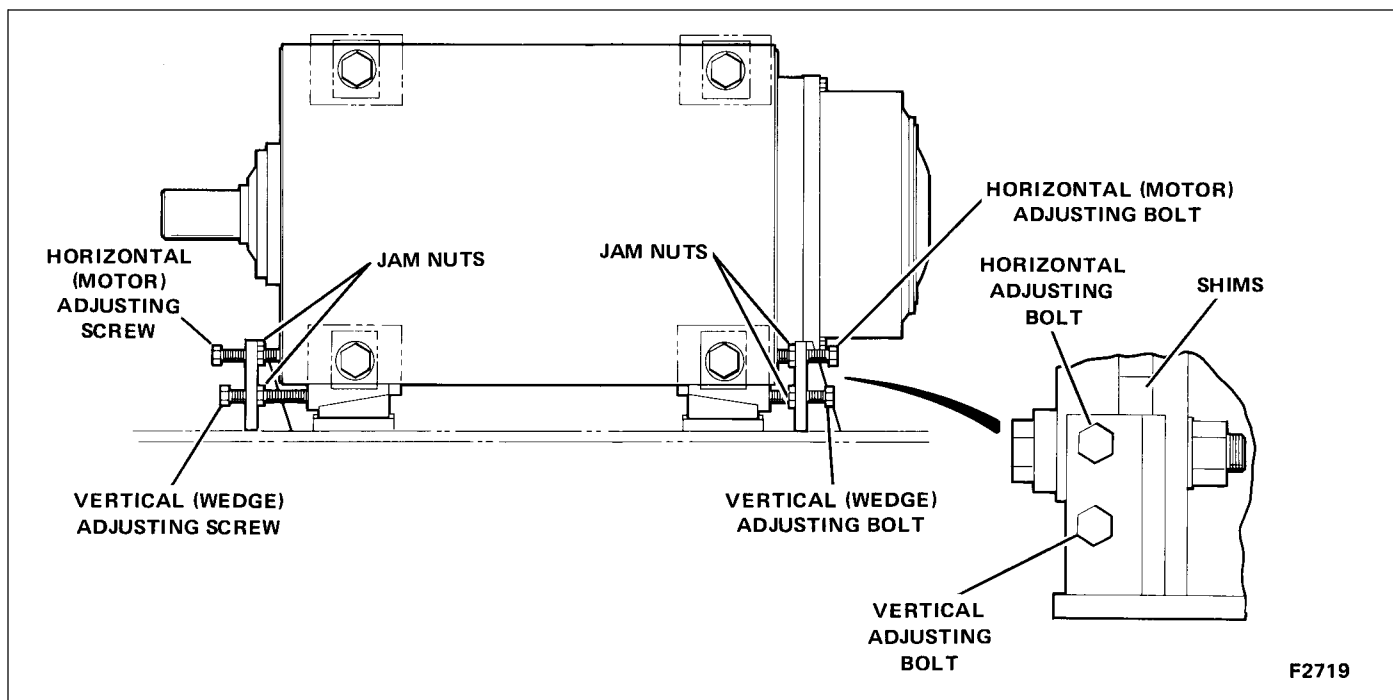
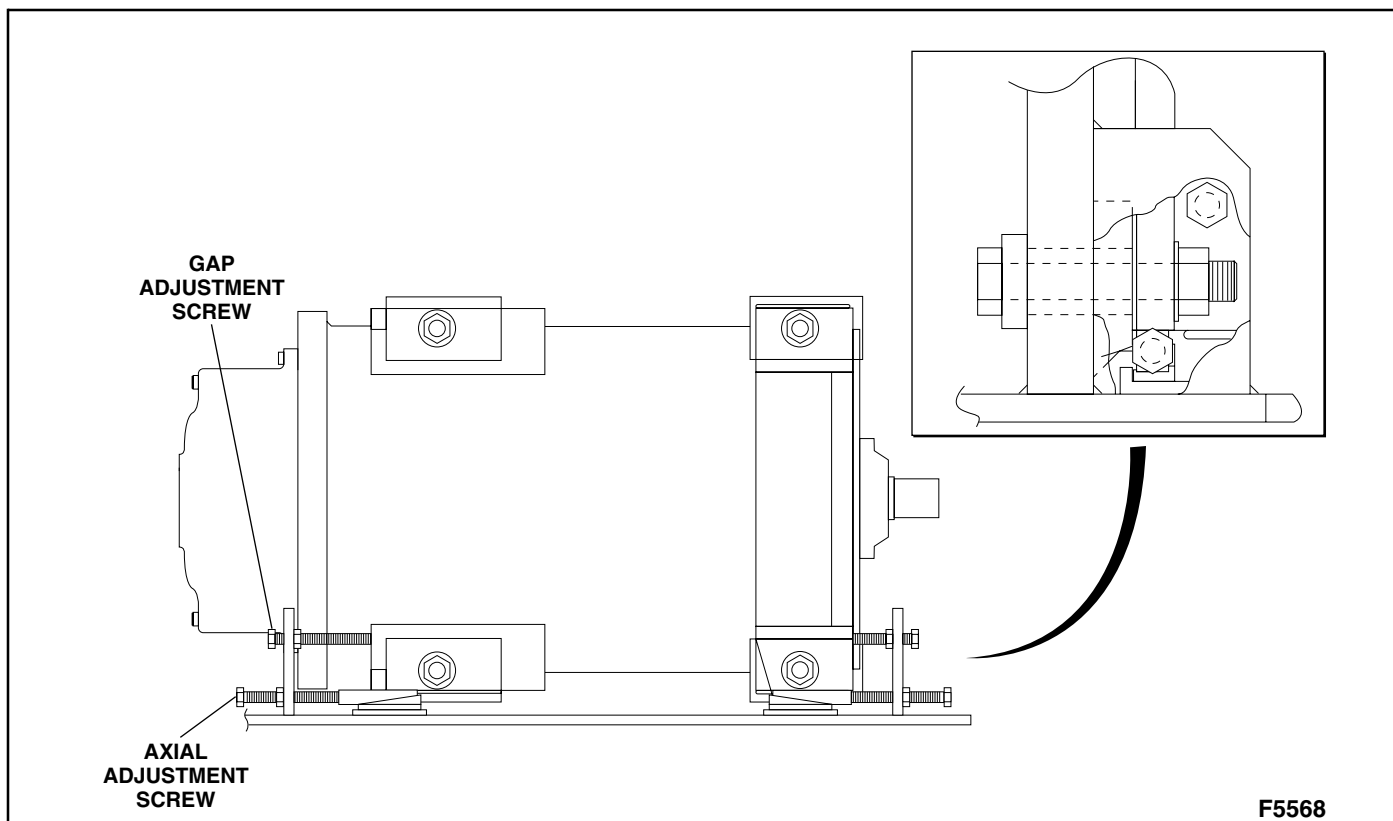

Figure 7-5. Motor Alignment Adjustments (100J5942)
Figure 7-6. Motor Alignment Adjustments (R10283)
- B. Adjust vertical parallelism alignment using the wedge adjusting screws at one end of the motor (see Figure 7-5 or Figure 7-6). Adjust the wedges to achieve parallelism.
- B. Adjust vertical axial alignment using the wedge adjusting screws (see Figure 7-5). Adjust each wedge equally to maintain shaft parallelism.
1. Adjust the motor (horizontal) adjusting screws (see Figure 7-5) until the 10.75 inch gap is reached.